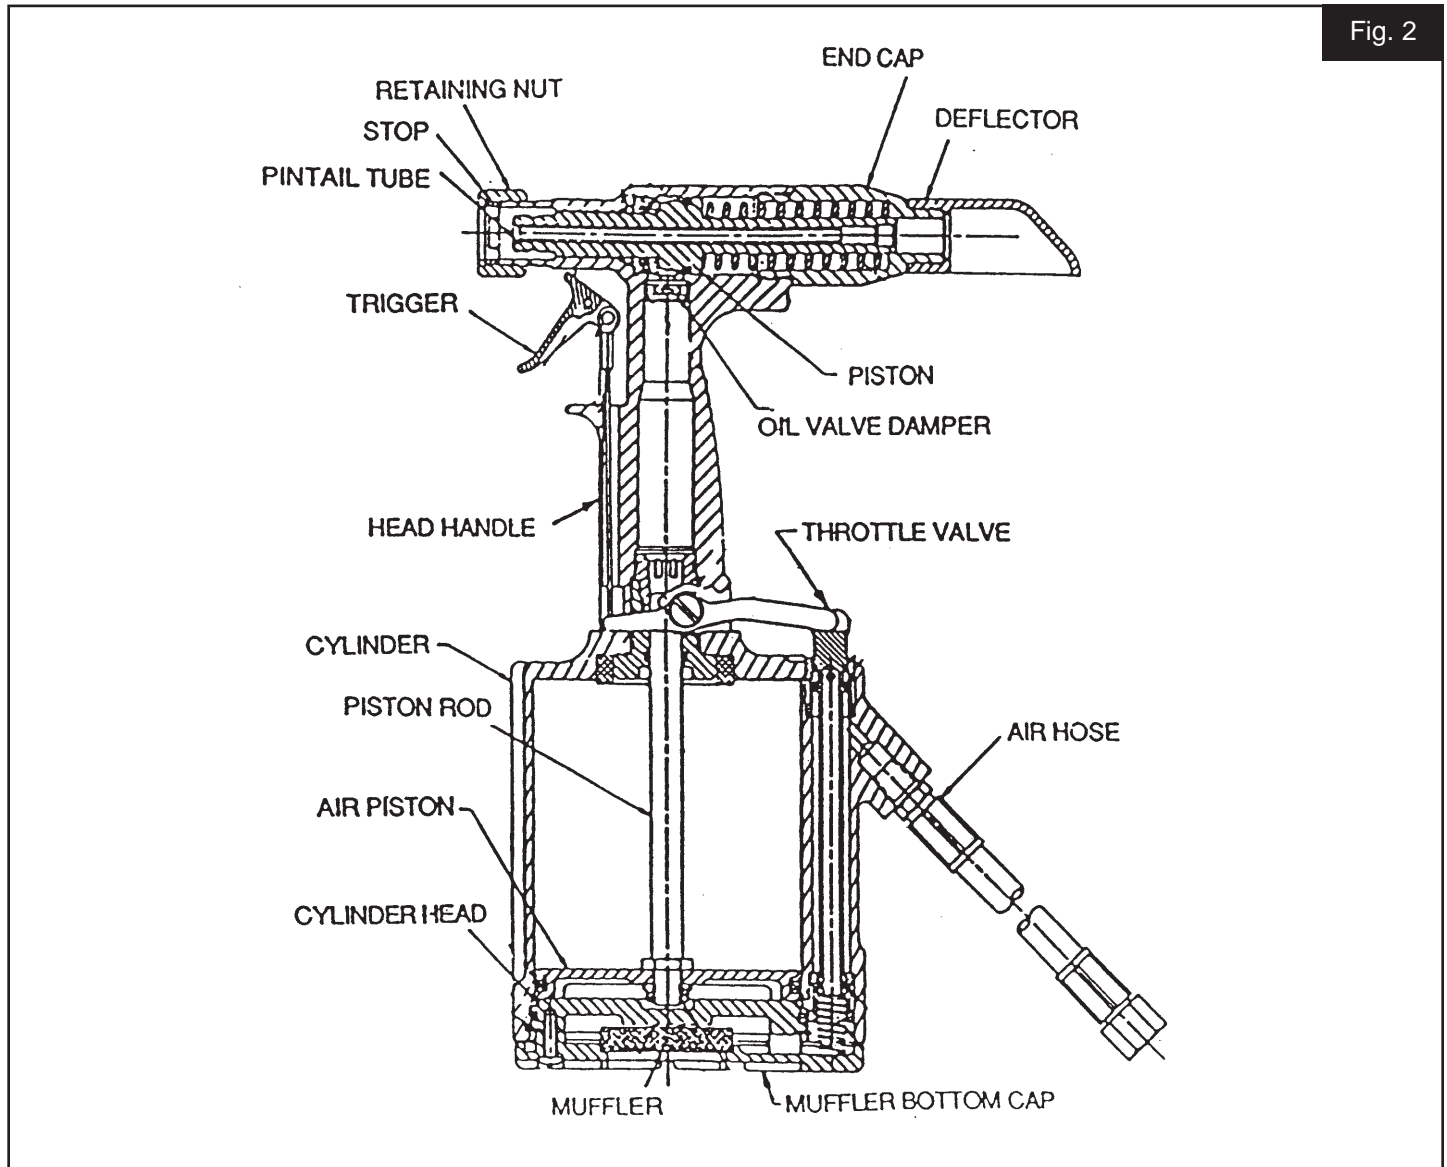

Fig. 2
8. Use pintail tube(s) as specified on NOSE ASSEMBLY DATA SHEET and/or *FIGURE 2*.